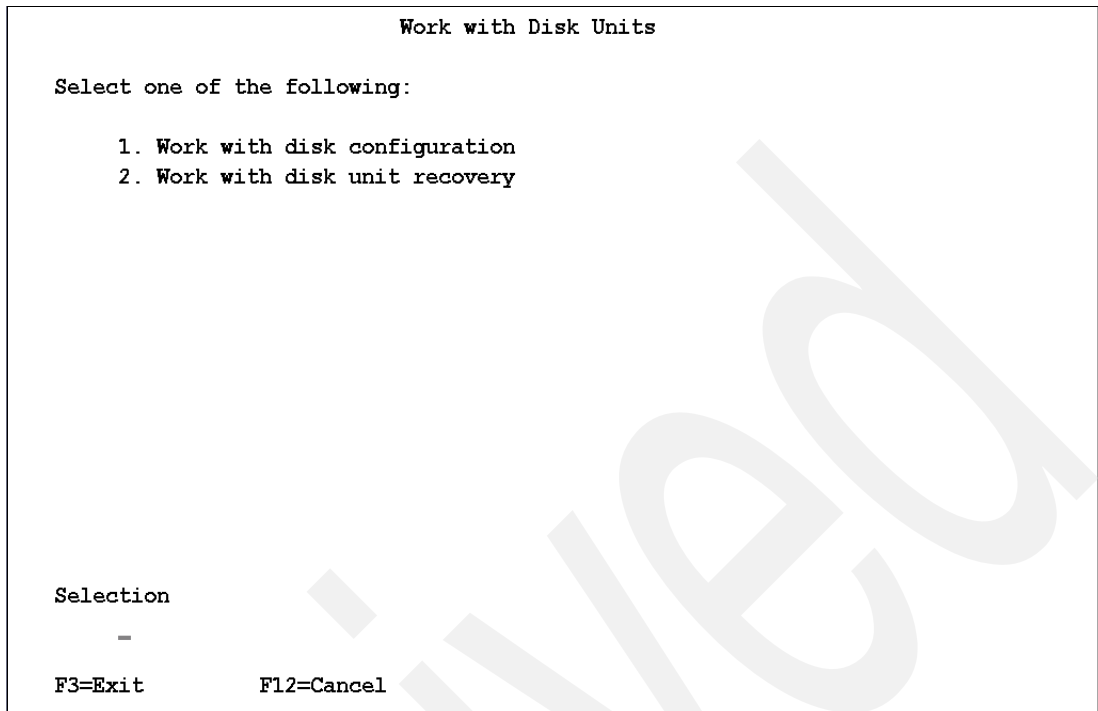

Figure 3-18 The Work with Disk Units screen
8. In the Work with Disk Units screen (Figure 3-18), enter 2 (Work with disk unit recovery).